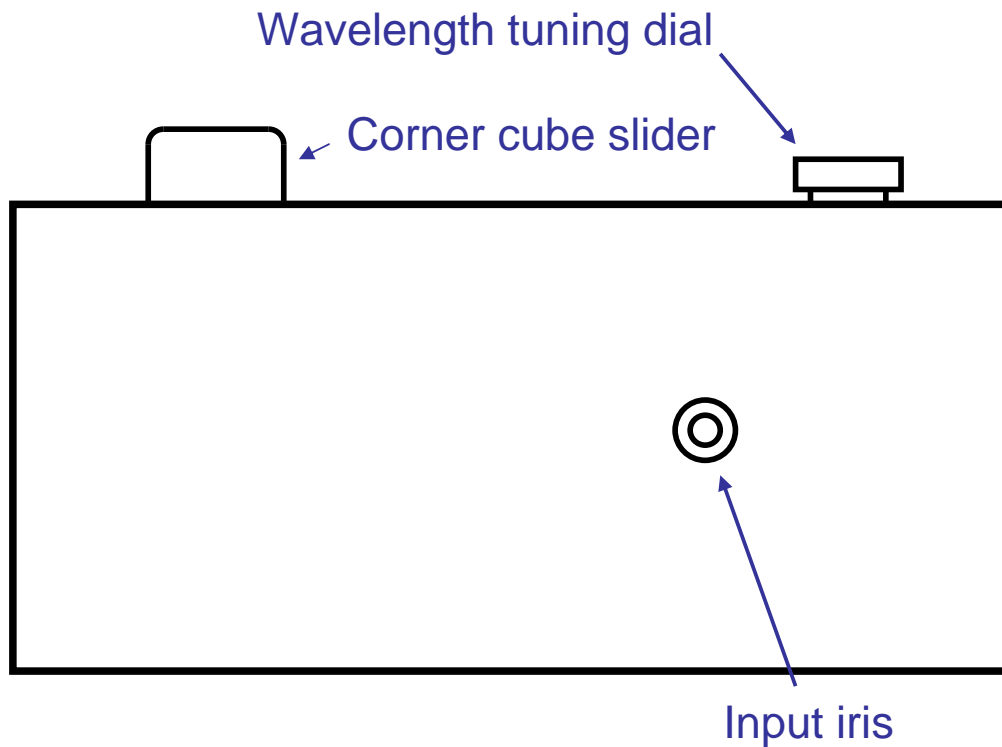

Fig. 4. Left side view of the BOA.
7. Slide the corner cube (see Fig. 4) to the forward position, toward the wavelength dial.